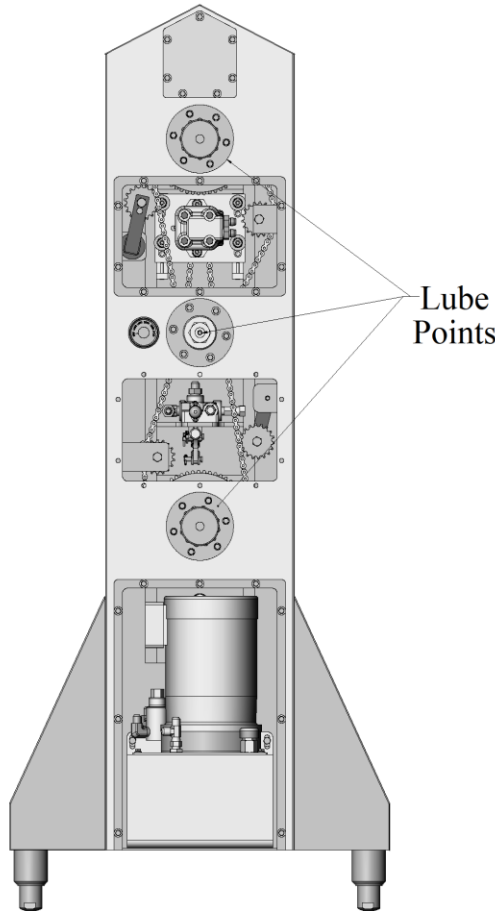

Figure 10
A good preventative maintenance schedule will minimize or eliminate major mechanical problems. Operating the press regularly will help to keep the mechanical components in good working order. The press has three (3) lube points (figure 10) that should be lubed monthly.
7. Locate grease fittings as shown in figure 10. Using food grade grease, lube the three points liberally.